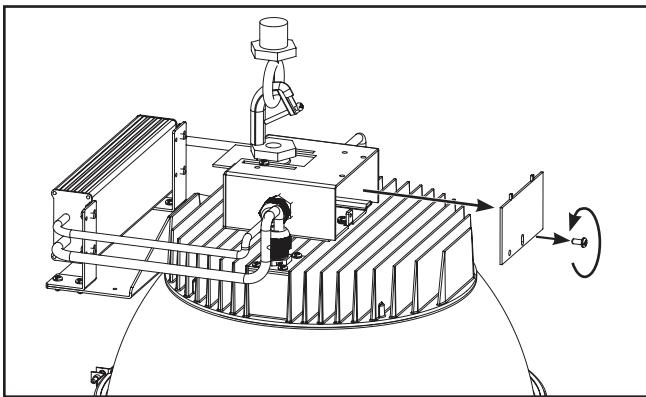

Figure 4.
8. Remove the screw on the junction box cover on the front of the luminaire and remove junction box cover. (Figure 4)